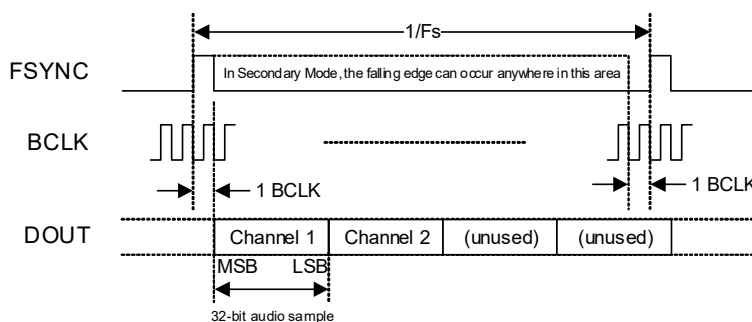

Figure 4-19. TDM Data Format, 4-Slot Example (FSYNC = Pulse)
- An example of the 4-slot TDM format in ASP Secondary Mode and in ASP Primary Mode with the FSYNC signal configured as a pulse is shown in Fig. 4-19. In this example, audio channels 1–2 occupy TDM slots 0–1 respectively.